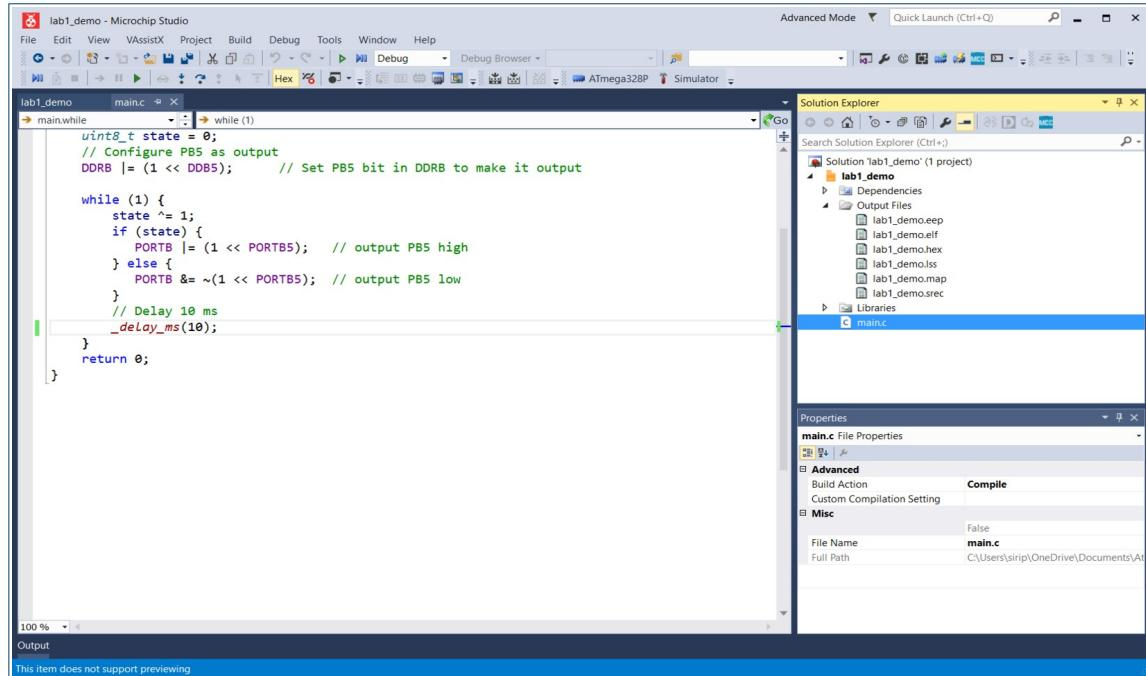

Figure 4: Output files of the project under the subdirectory named Debug
1.4 Compile and build the project to generate the output files (see **Figure 4**).